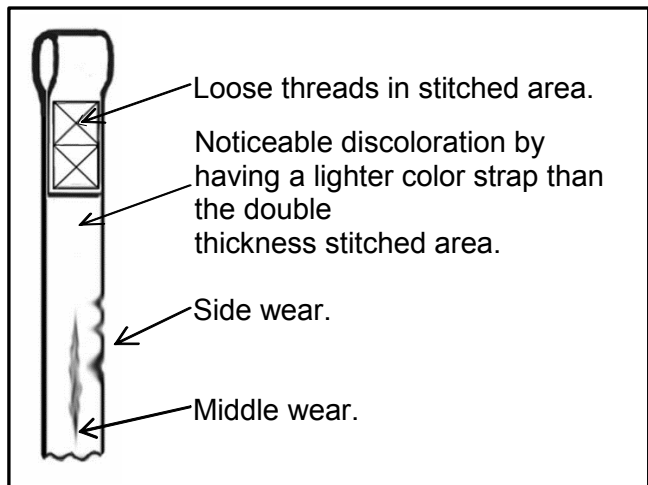

FIGURE 3
- Inspect the strap for any visible signs of wear, frays, loose threads or other damage (see Figure 3). If there is any evidence of damage, DO NOT USE IT. Contact your local Arjo representative to have the lift serviced.